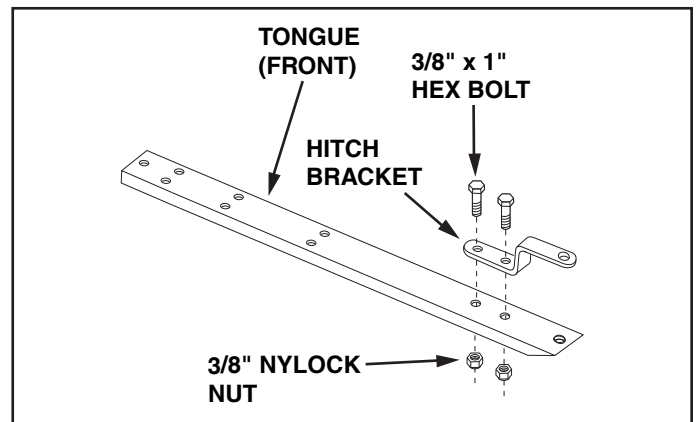

FIGURE 11
18. Assemble the hitch bracket to the front tongue using two 3/8" x 1" hex bolts and 3/8" nylock nuts. See figure 11.